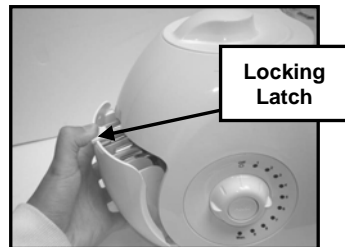

Fig. 10
1. Press down and pull back on the locking latch of the storage compartment. (Fig. 10)